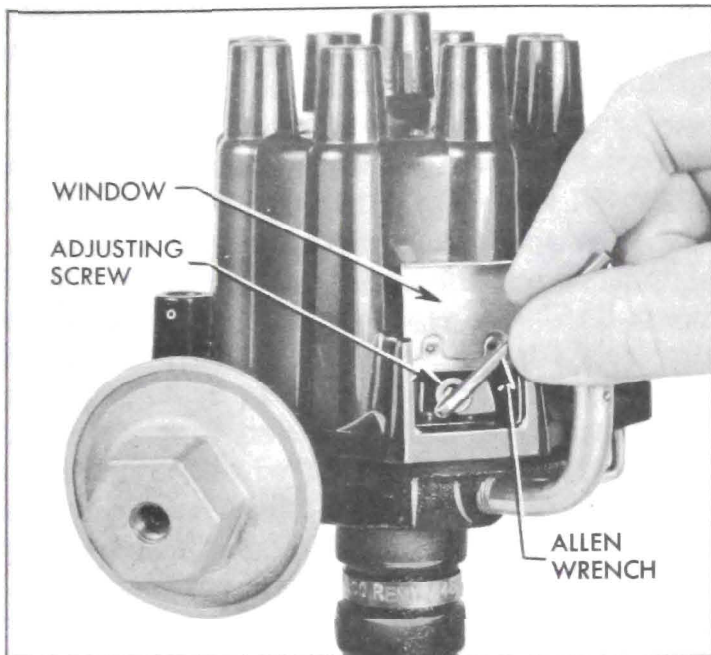

Figure 10-38—Adjusting Contact Point Dwell Angle
3. Start engine. Lift adjustment window and insert 1/8" Allen wrench in adjusting screw. See figure 10-38. Set dwell angle at 30 degrees.